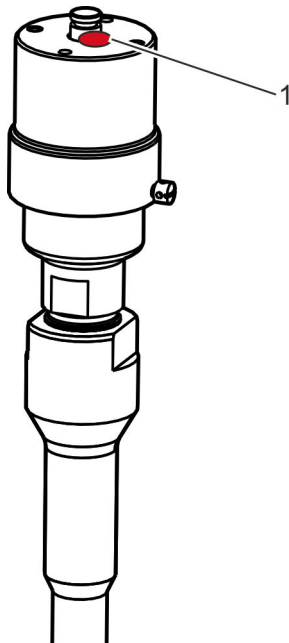

Fig. 27: Applying a painted dot
3. ➤ Mark the position of the guide with a painted dot (Fig. 27/1).